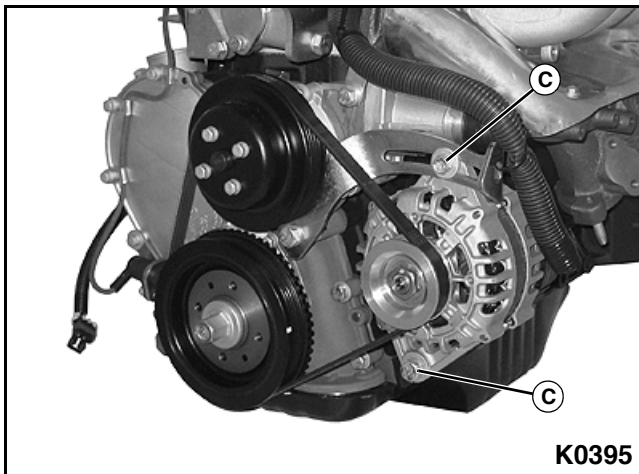

Figure 5-17
- Loosen the two alternator mounting bolts (C). See Figure 5-17.